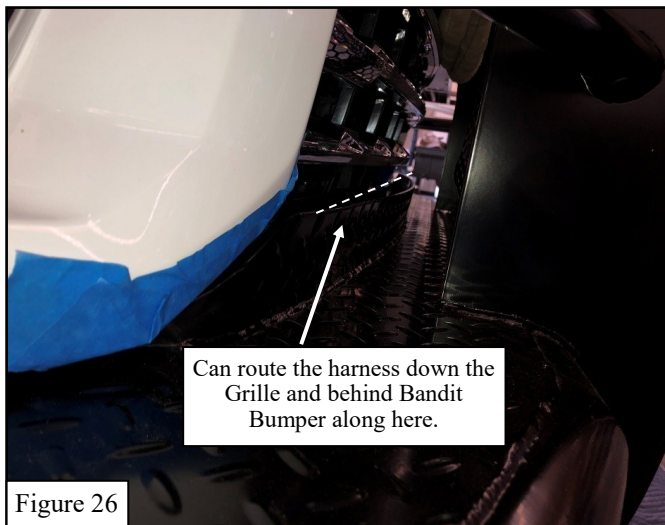

Figure 26
26. Reconnect any wiring harnesses or hoses to their respective locations. Se **Figure 26**.